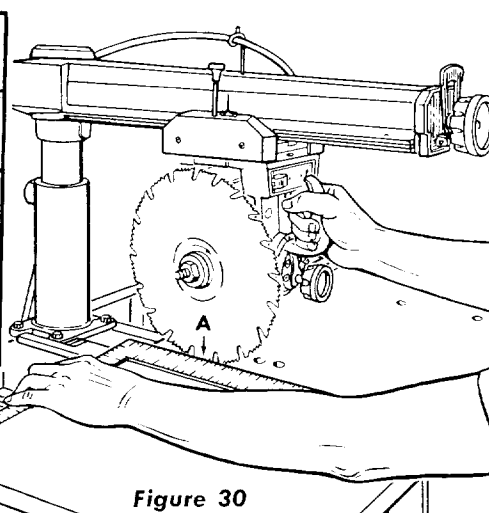
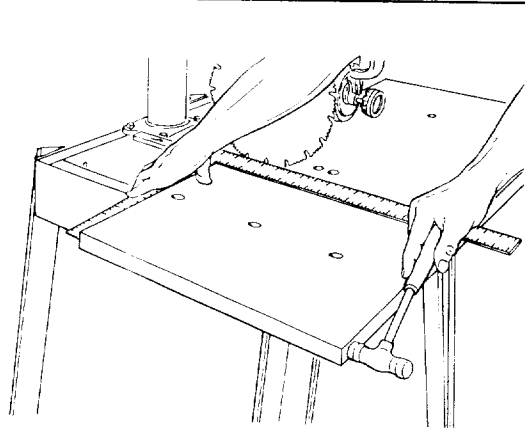

Figure 30
Figure 31
- g. Place a framing square on the table with the short leg against rear edge of table as shown in figure 30 and the long leg of the square just contacting a tooth
of the saw blade. ((Position "A", figure 30.) Mark this tooth with a soft pencil.
- (1) If the saw tooth ("A", figure 30) moves into the square when moving the blade from the rear to the front of table, tap the left-hand front edge of table (figure 31) with the mallet.
- (2) If saw tooth ("A", figure 30) moves away from the square when moving the blade from the rear toward the front of table, tap the right-hand front edge of table with the mallet.